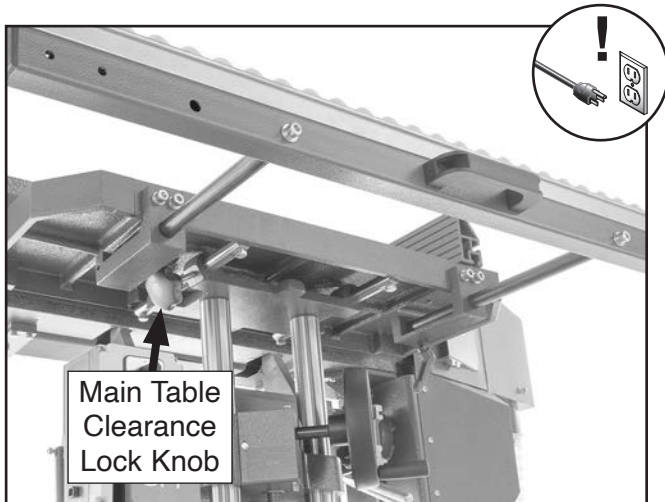

Figure 42. Location of main table clearance lock knob.
2. Loosen main table clearance lock knob (see **Figure 42**), then move main table away from platen.